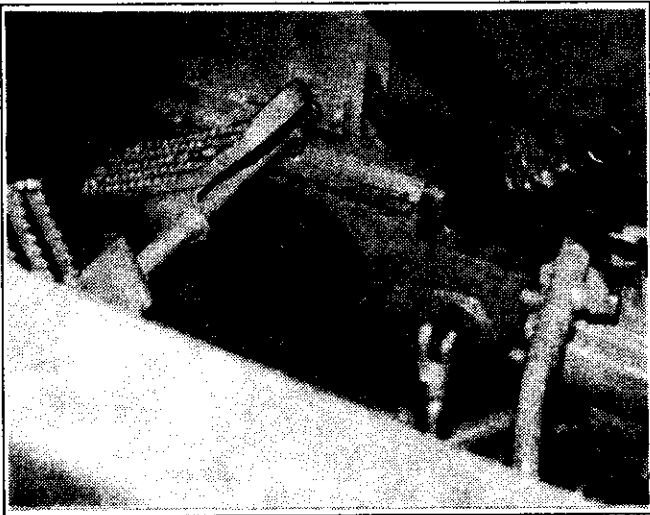

Figure 6-13
5. Remove cotter pin and remove sprocket retaining nut by holding nut and turning axle. (See figure 6-13)